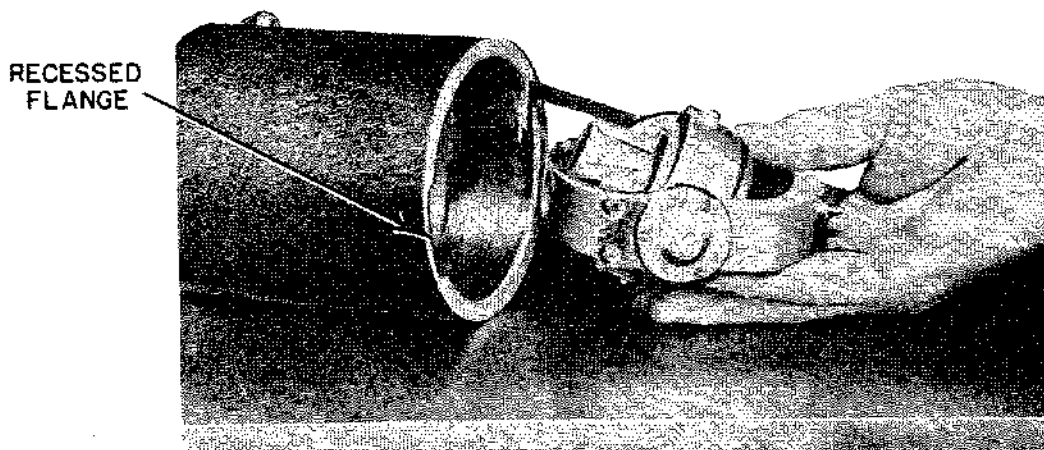

FIGURE 12 REMOVING THE INSTRUMENT FROM THE CASE
5. Remove rear cover of case by taking out the six (6) attaching screws (one of these is a flat-head screw sealed with wax and stamped). The instrument is now ready to be removed from the case. (See Fig. 12.)